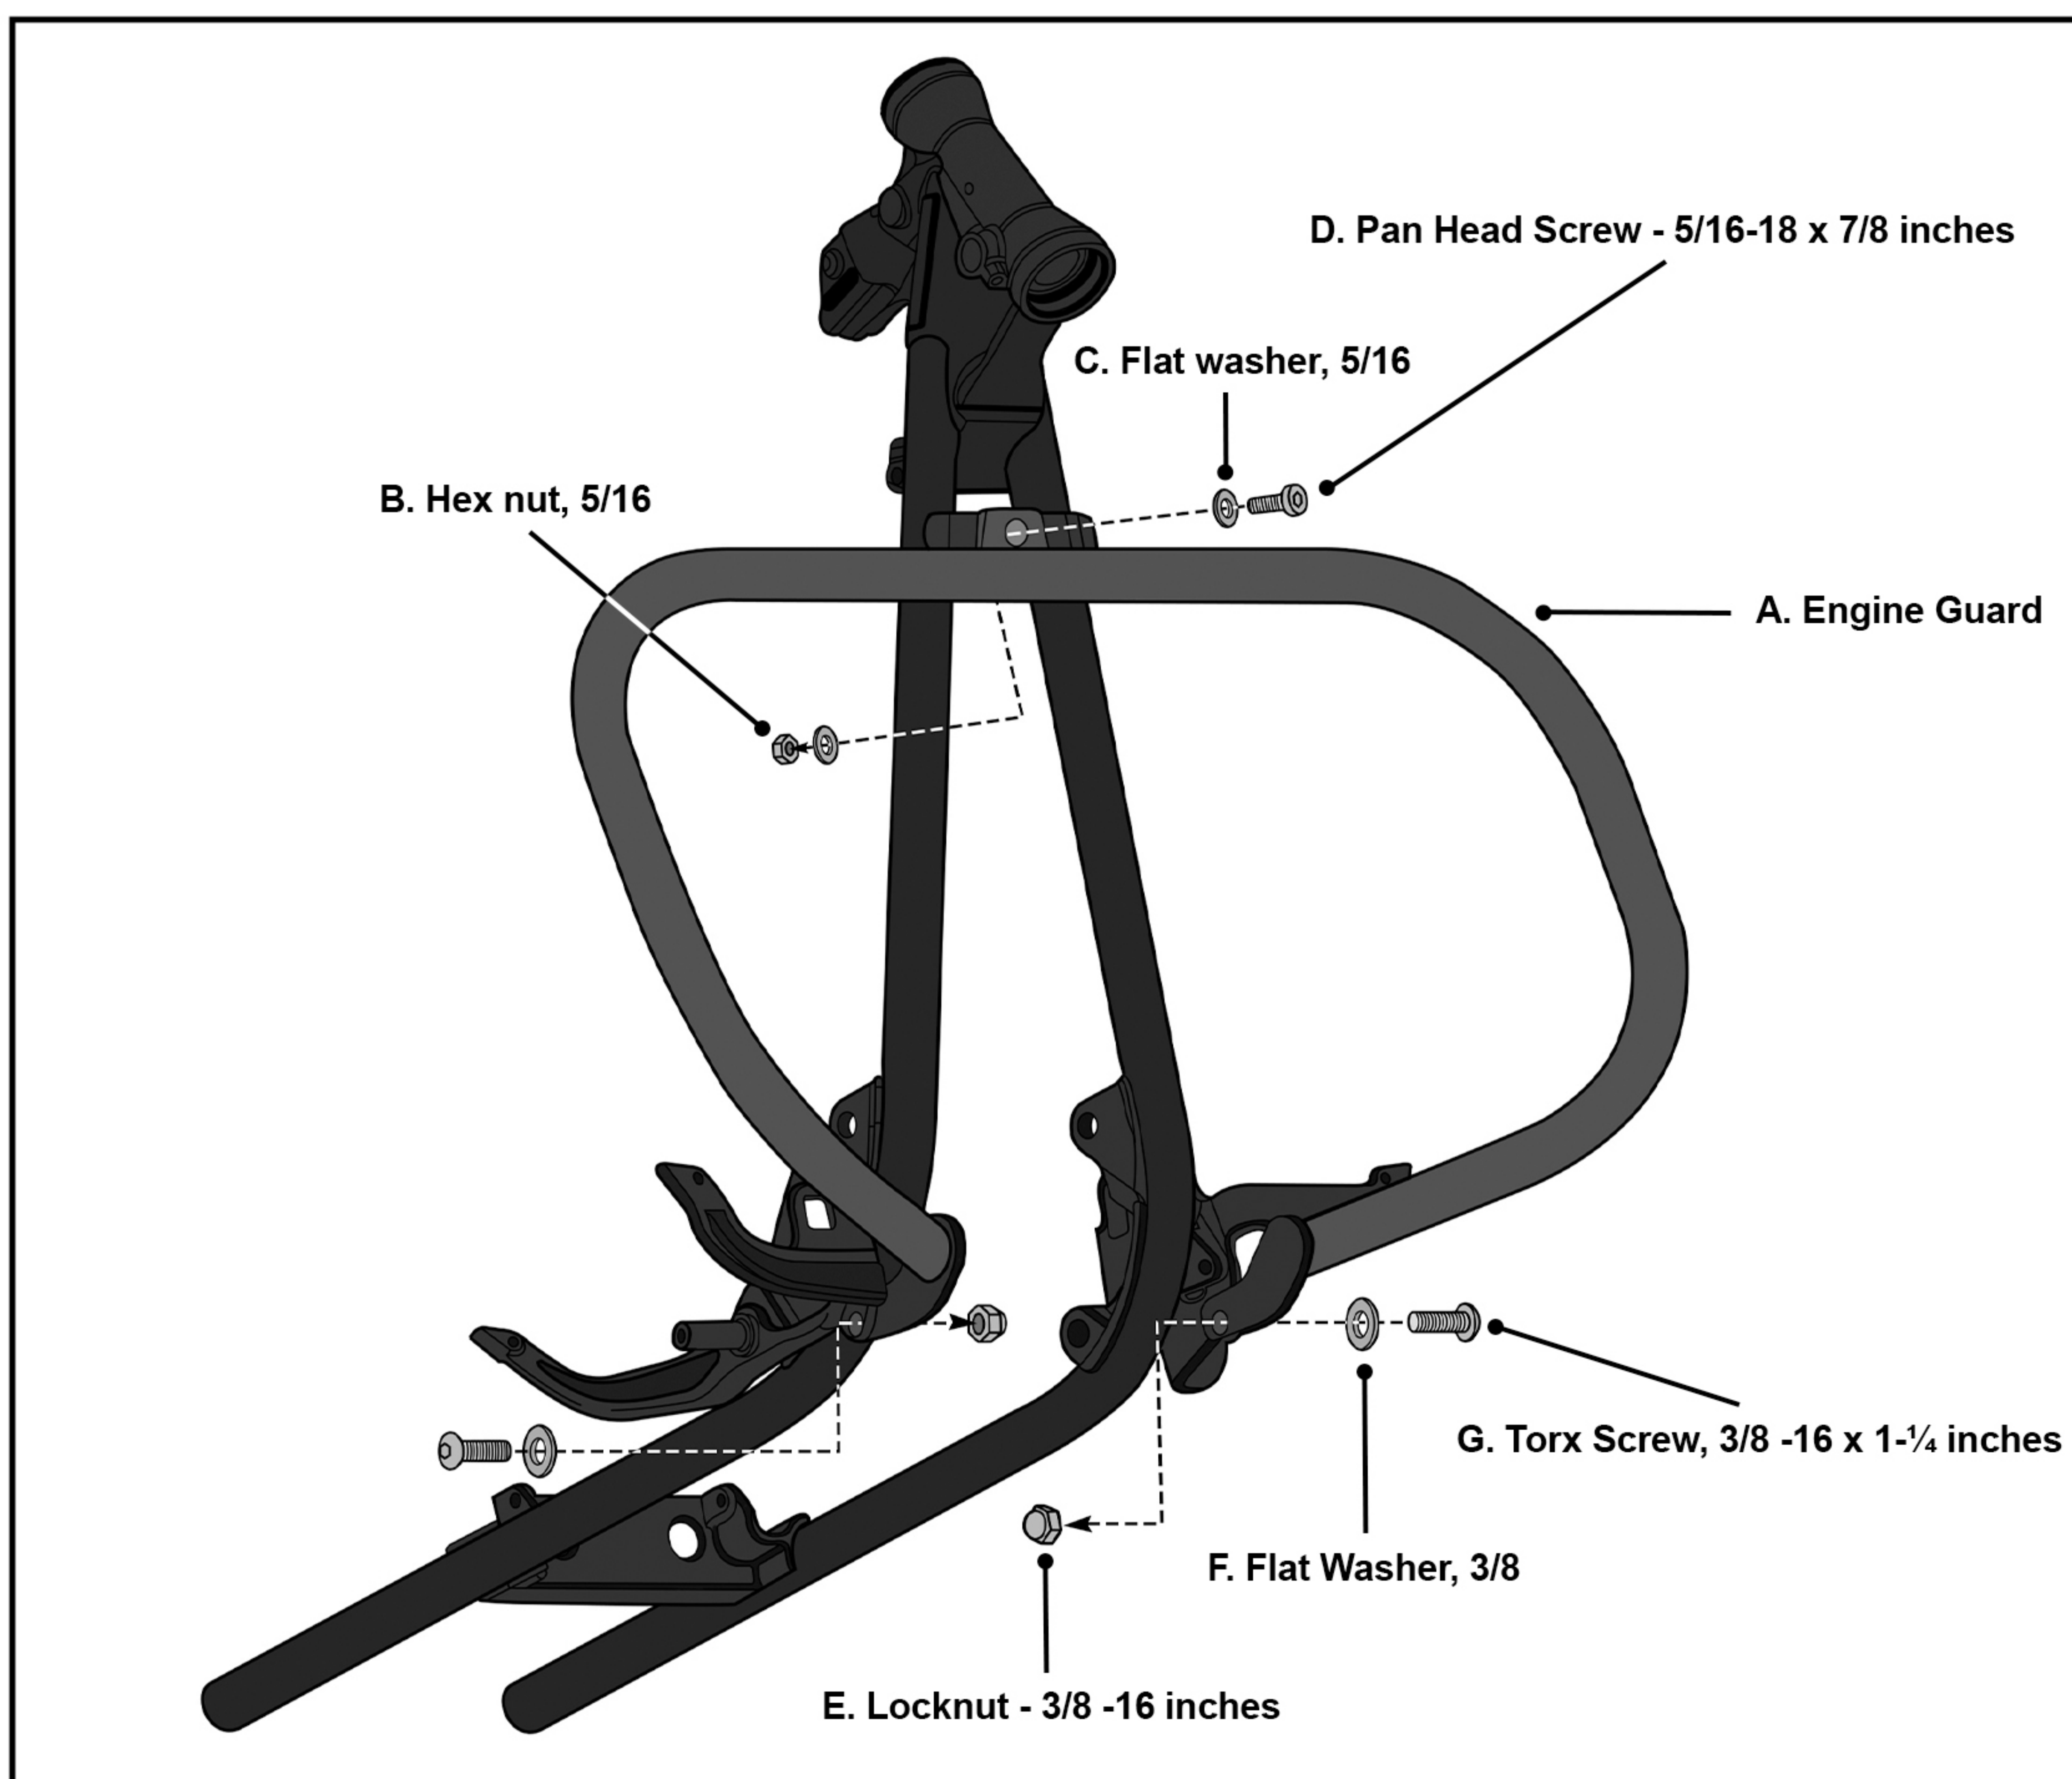

Fig 2. Engine Guard Installation
Using the washer (C), insert the screw (D) through the holes from the front. Pass the screw through a second flat washer and tighten the screw using the provided nut (B). See Figure 2.